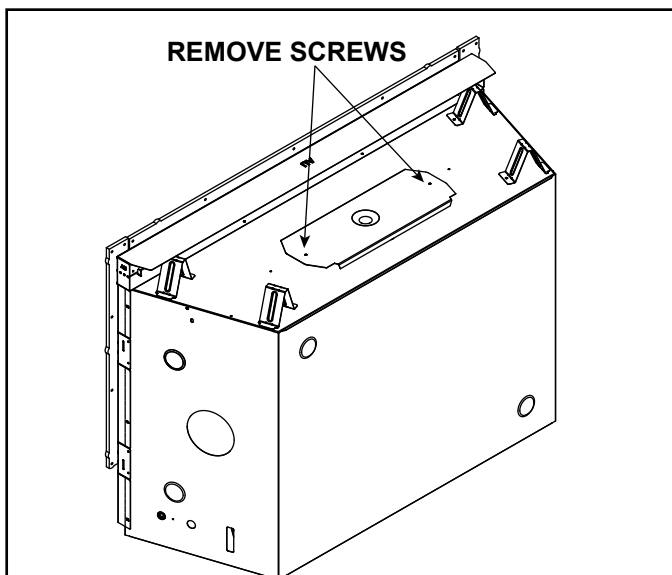

Figure 6.1 Shipping Position
1. Remove two screws on top heat shield. See Figure 6.1.